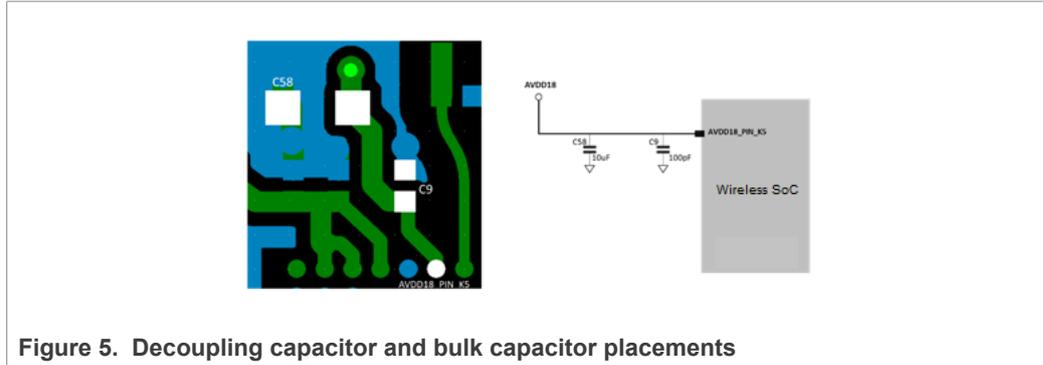

Figure 5. Decoupling capacitor and bulk capacitor placements
- There is a decoupling capacitor for each power pin and a bulk capacitor for each rail. Place the decoupling capacitor as close as possible to the power pin, then place the bulk capacitor. Figure 5 shows an example where C9 is the decoupling capacitor for K5 pin. In this example, place C9 as close as possible to K5 pin, and place C58 close to C9.